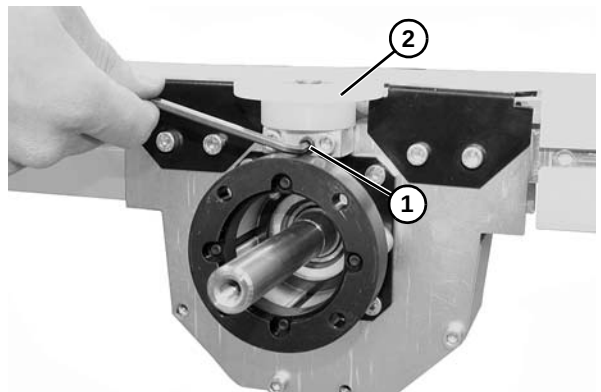

Figure 85
2. Loosen set screw (**Figure 85, item 1**) and remove belt hold down wheel (**Figure 85, item 2**).